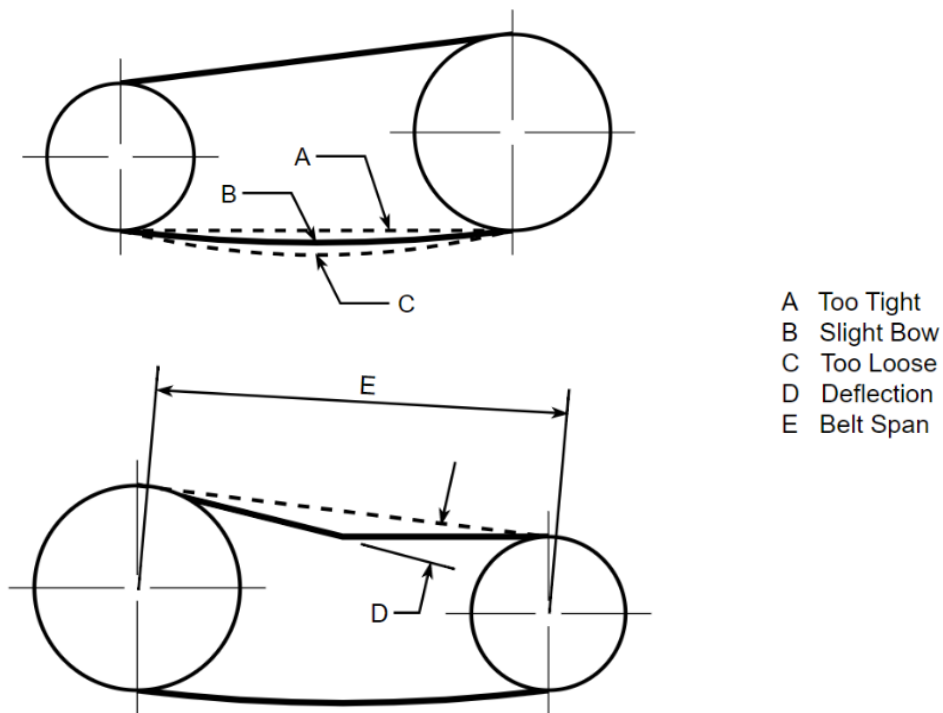

Figure 3: Drive belt deflection
5. Use a belt tensioning tool to determine the belt deflection in a static condition. Reference **Figure 3** and **Table 1** for requirements.